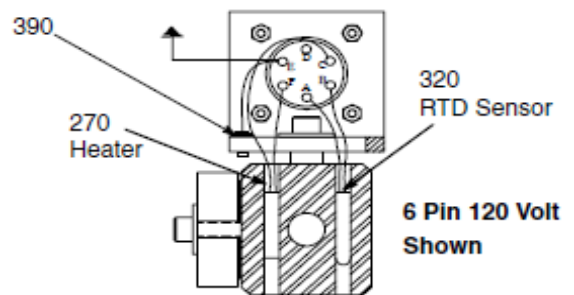

FIG. 15
- a. Remove the two screws (230) from the connector cover. Then remove the connector cover.
- b. Remove the two socket head screws [FIG. 9, Item (200)], two washers (210). The heater cartridge (270) and sensor (320) will come out of the dispense valve body (FIG. 15).
4. Remove the four socket head screws (310) and pull cylinder cap (260) and cylinder base (240) from the dispense valve body (190). The needle and piston remain with the cap and base.
6. Remove needle from either the cap or the base (depending on which piece it went with). When the needle is separated from the base, the closure spring (370) falls out.
7. Using an o-ring pick, remove dispense valve body seal (70).
- b. Solder the leads to the appropriate connector (FIG. 15) for 6 pin connector. For Therm-O-Flow 8 pin assemblies, removal and replacement of the heaters and RTD require a pin extraction tool, new pins, and a pin crimping tool. These tools meet spec MIL-C-22520 [Ref. Daniels AF8 (crimp tool) or equivalent, available at local electrical supply warehouse.